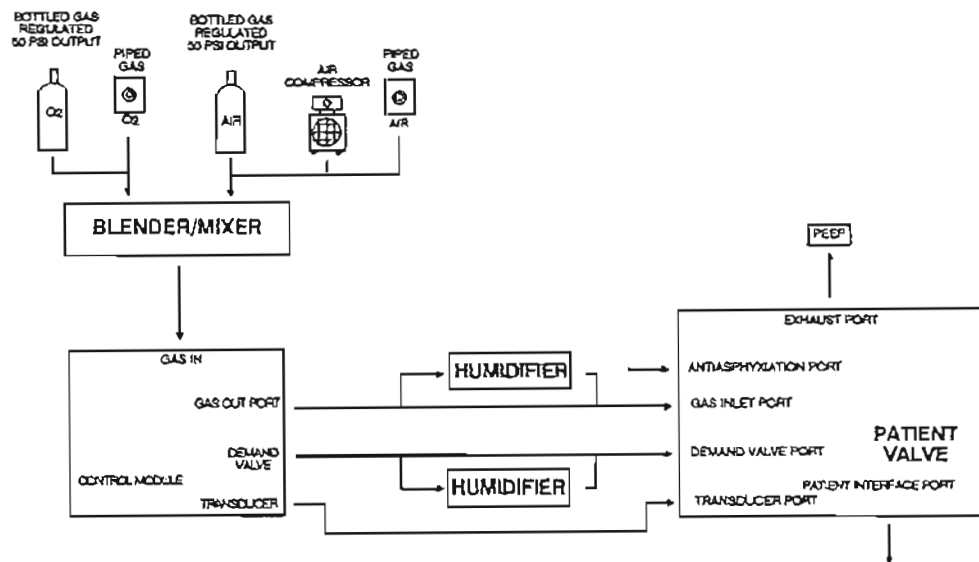

Figure 2-7. Alternate blender/mixer configuration.
- Additional configuration interconnections, with optional accessories, are illustrated in figures 2-7 and 2-8.